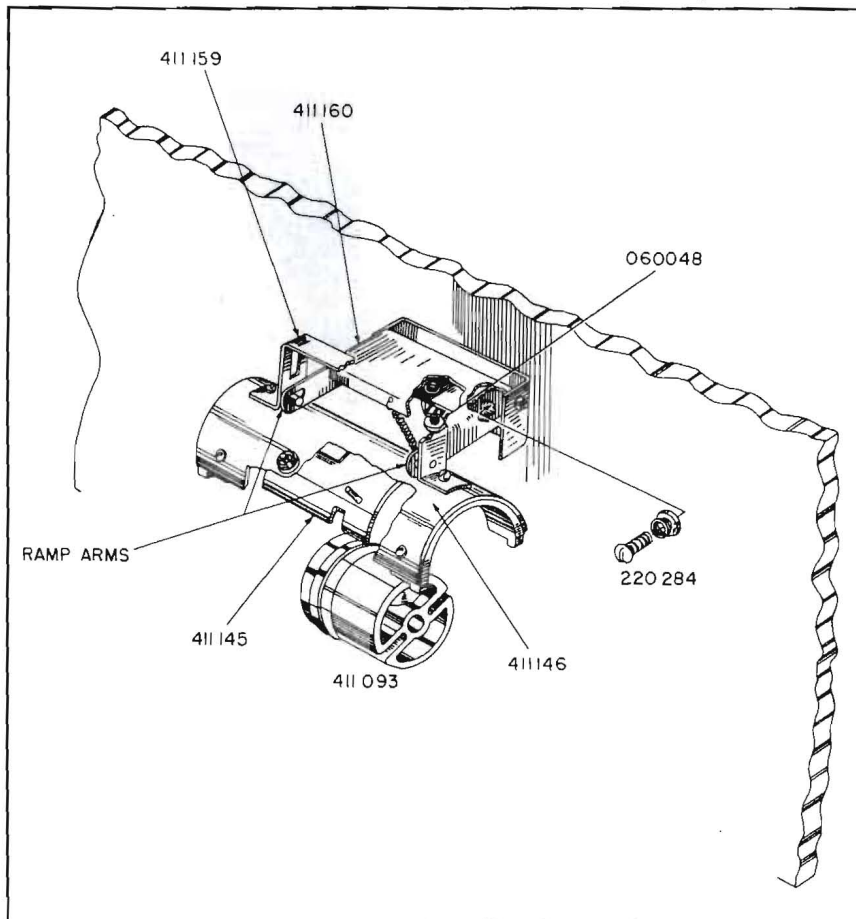
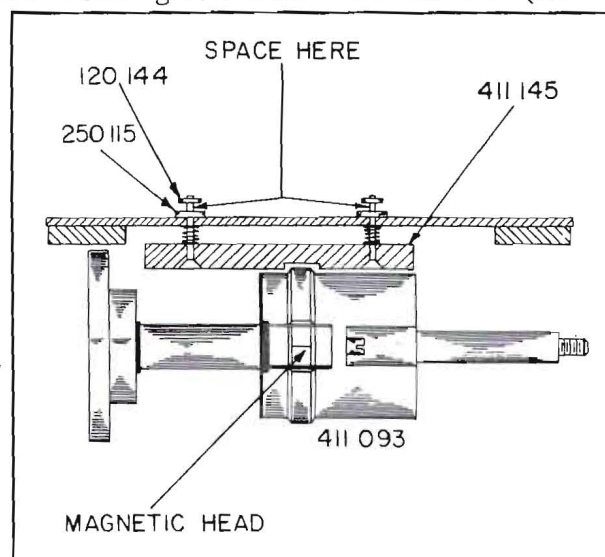
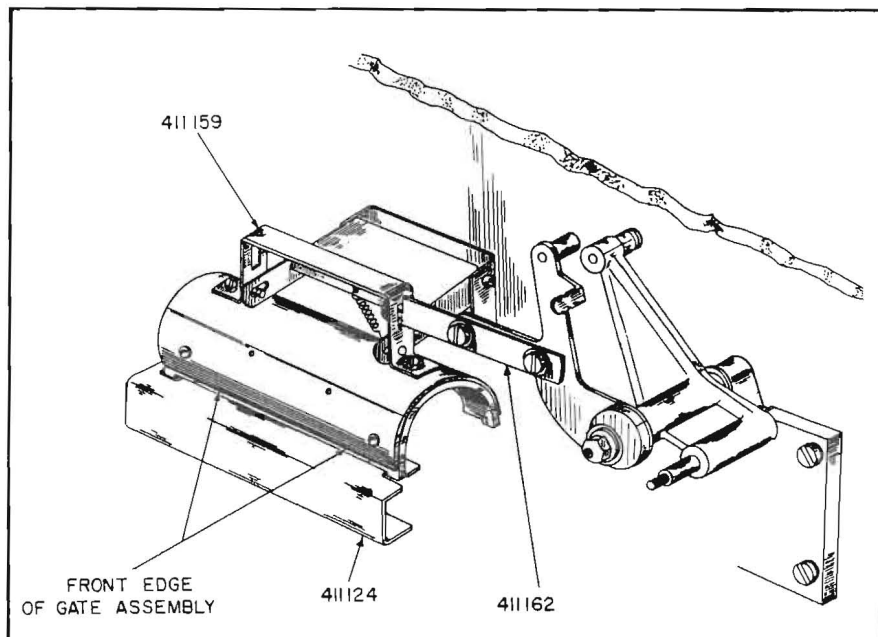

FIG. 19 Gate Assembly Adjustment
FIG. 20 Centering Magnetic Heads In Slots In Shoes of Gate Assembly
FIG. 21. 411162 Elevator Arm Finger Adjustment
- (a) The gate assembly must be in position so that the magnetic heads are running approximately in the center of the slots in the 411 145 gate shoes (Figure 19).
- (b) The front edge of the gate assembly must be approximately parallel (when the machine is not running) with the top surface of the 411 124 front tape guide (Figure 20).
- (c) The vertical edge of the elevator arm finger must be acting as a stop for the gate assembly (Figure 21), and not the arm of the ramp assembly (Figure 19).
- (1) Remove 411 172 bottom shield.
- (2) Place blocks under right and left edges of machine, to lift machine up approximately 6" from working surface. Place a mirror, tilted toward you, beneath gate assembly.
- (3) With machine threaded with tape and with LOAD-RUN lever in RUN position, adjust 060 048 ramp lifting screw (Figure 19) to obtain a small space between 250 115 flat washer and 120 144 retaining ring on shafts of 411 145 shoe (Figure 20). Then, loosen two 220 284 ramp adjusting screws (Figure 19) until they are just snug tight.
- (4) Adjust left to right position of 411 160 ramp assembly to a) center magnetic heads of magnetic recording wheel assembly in slots in 411 145 shoes of gate assembly (Figure 19) andb) center ramp arms of ramp assembly between sides of 411 159 gate bridge assembly (Figure 21). Finally, adjust up and down position of 411 160 ramp assembly (without disturbing left to right adjustment just made) to level front edge of gate assembly so it is approximately parallel to top surface of 411 124 front tape guide (Figure 21). Now, carefully tighten two 220 284 ramp adjusting screws in place.
- (5) With LOAD-RUN lever still in RUN position, adjust 411 162 elevator arm finger (Figure 21) so that, without disturbing position of gate assembly, vertical edge of this finger just touches edge of right arm of 411 159 gate bridge assembly. Adjust horizontal edge of finger so it is approximately 1/16 of an inch below top of slot in 411 159 gate bridge assembly.
- (6) Screw in 060 048 ramp lifting screw (Figure 19) so that all play is just removed from gate and two shoes (no space between 250 115 flat washer and 120-144 retaining ring on shaft of shoe -Figure 20). Then, back off this screw approximately $\frac{1}{2}$ a turn. When LOAD-RUN lever is moved from RUN to LOAD, 411 162 elevator arm finger should now lift gate assembly a short distance before two shoes are lifted.
- (7) Now, with LOAD-RUN lever in RUN position, turn machine ON. Turn REC-STOP-